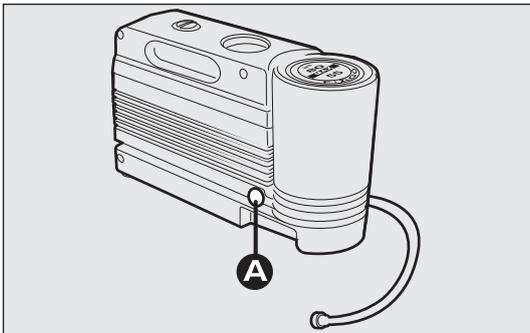

fig. 177
- press button A-fig. 177 to release the replacement part;